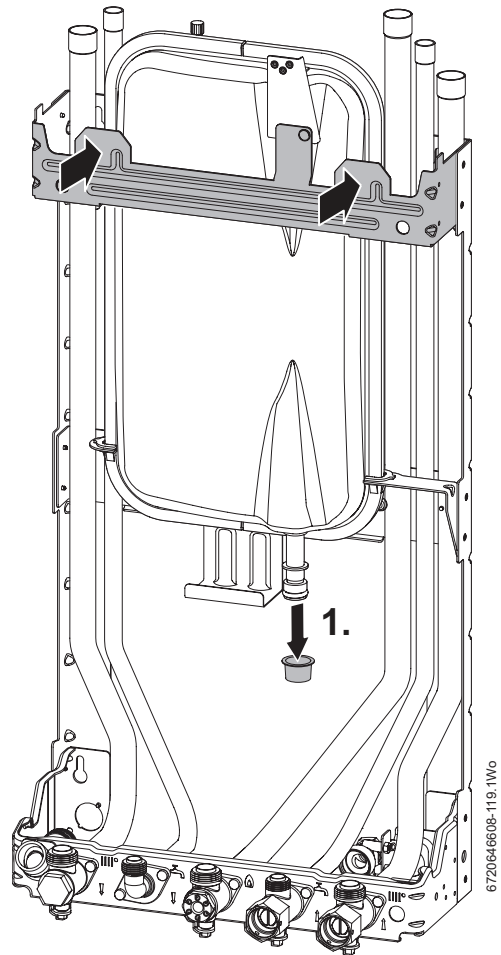

Fig. 30 Mounting points
- ▶ The boiler is mounted on the wall frame utilising the two mounting points, indicated on figure 30, left and right at the top of the wall frame.